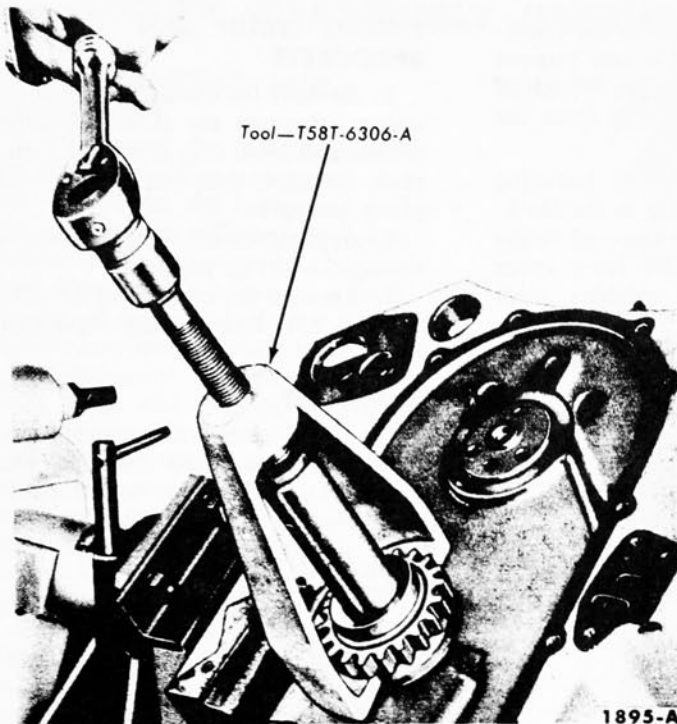

FIG. 15—Crankshaft Sprocket Removal
2. Remove the crankshaft sprocket (Fig. 15). Remove the Woodruff key.